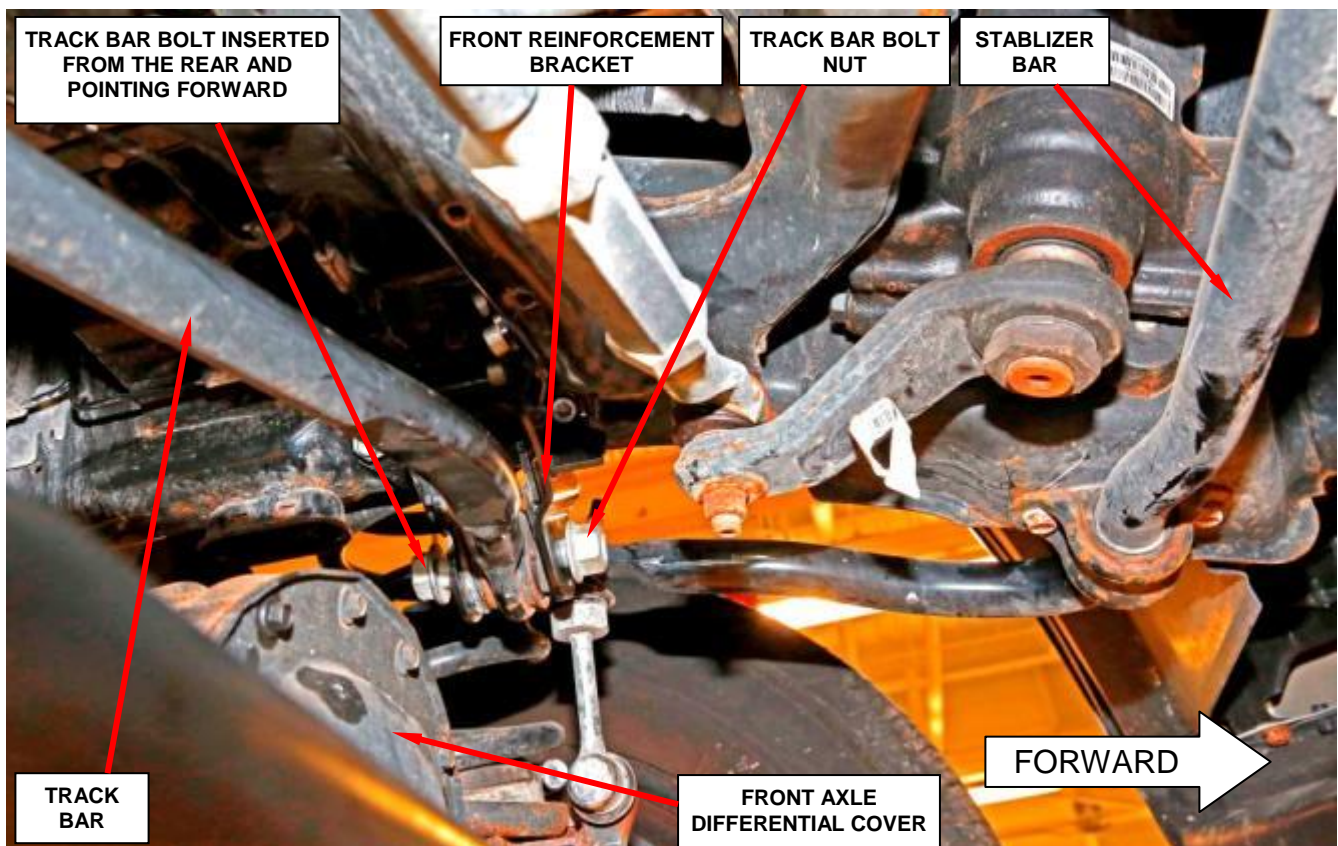

Figure 23 – Install Track Bar Bolt in Orientation Shown
43. Place the track bar into position and install the track bar bolt. The bolt must enter from the rear of the vehicle and point forward, with the track bar bolt nut on the front side (Figure 23).
CAUTION: If the track bar bolt is installed facing rearward, the suspension will hit the track bar bolt during suspension travel. Install the bolt through the rear reinforcement bracket first, with the nut going against the front reinforcement bracket (Figure 23).